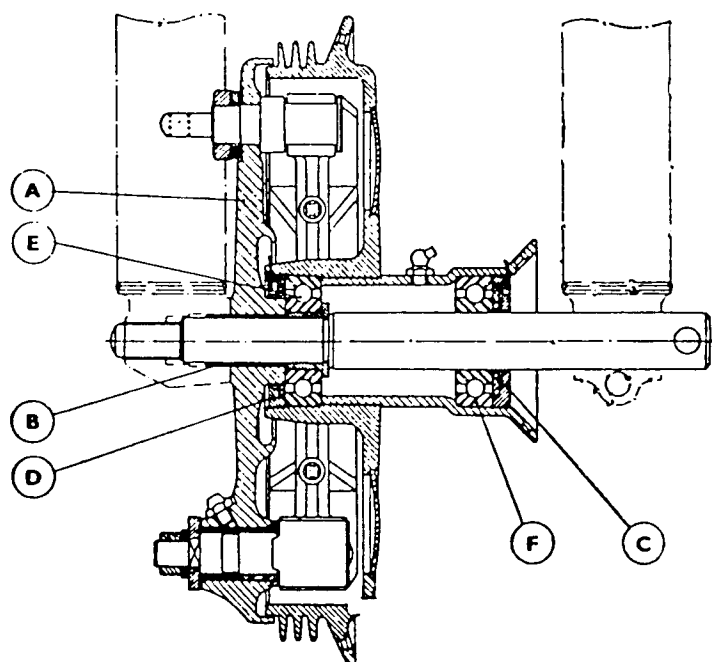

FIG. F.3. Section of front hub.
The brake plate (A) is a push-fit on the bush (B) (see Fig. F.3).